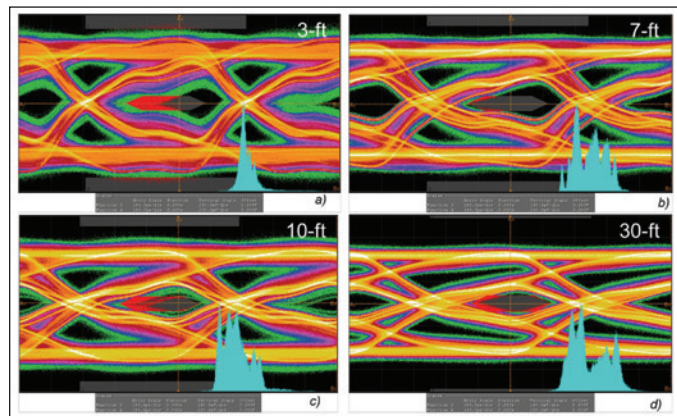
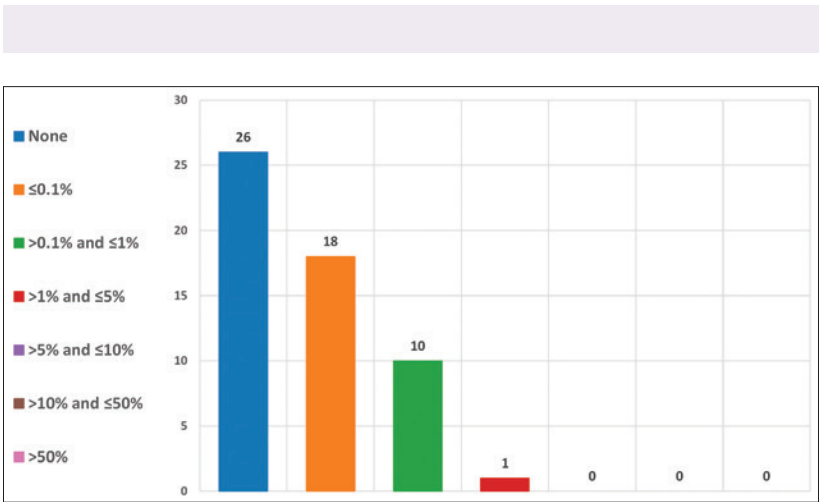

Figure 4: Impact of cable length driven by HDMI Source 2
Figure 5: Pareto of [Q21], “What percentage of your company's product re-spins were due to latch-up failures in a system application?”
Figure 4 shows the eye diagram for HDMI Source 2 and four different cable lengths.
- Figure 4 shows the majority of latch-up fails are reported during the JESD78 qualification test, and many of these fails result in a re-spin, but this accounts for a very small fraction of the total number of re-spins as shown in Figure 5.
Figure 4: Feedback to [Q12], “Where have you experienced latch-up failures?” in the Case where [Q11], “Have you experienced latch-up failures?” Was Answered “Yes”
Figure 4 shows at what step latch-up was detected, Figure 6 shows the root causes, and Figure 5 shows how often such cases led to re-spins.